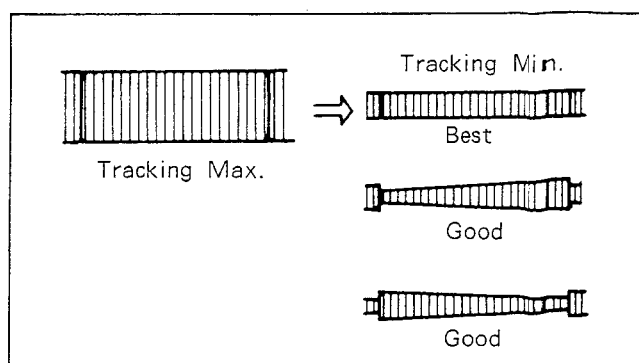

Fig. M11
8. Turn the Tracking VR from end to end. The variation of RF envelope should be nearly parallel as shown in Figure M11.
5. Turn the Tracking VR from end to end and then back to the detent position. Confirm that the RF envelope output level is maximized at the detent position. (Fig. M11)